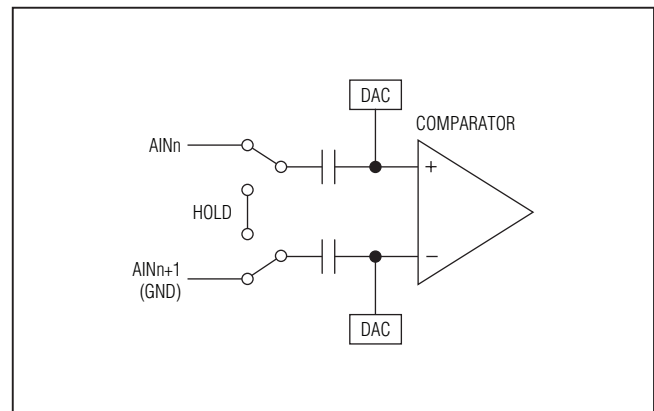

Figure 3. Equivalent Input Circuit
**Note 10:** See Figure 3 (Equivalent Input Circuit).
In single-ended mode, the ADC always operates in unipolar mode. The analog inputs are internally referenced to GND with a full-scale input range from 0 to  $V_{REF+}$ . Single-ended conversions are internally referenced to GND (Figure 3).